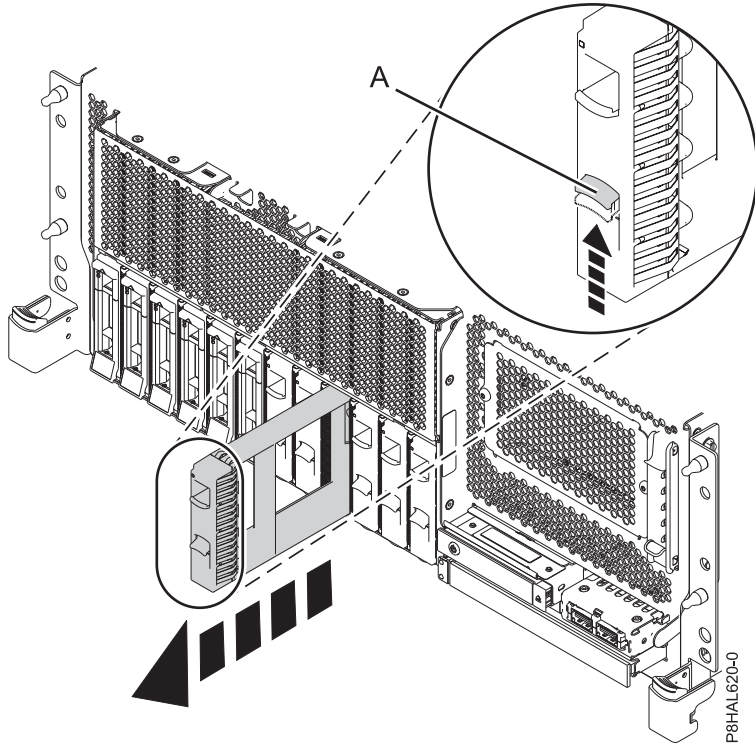

Figure 133. Removing a disk drive filler from a rack-mounted base function system
3. Push the lock (A) on the handle of the filler in the direction shown in Figure 133 on page 143, Figure 134 on page 143, Figure 135 on page 144, and Figure 136 on page 145.